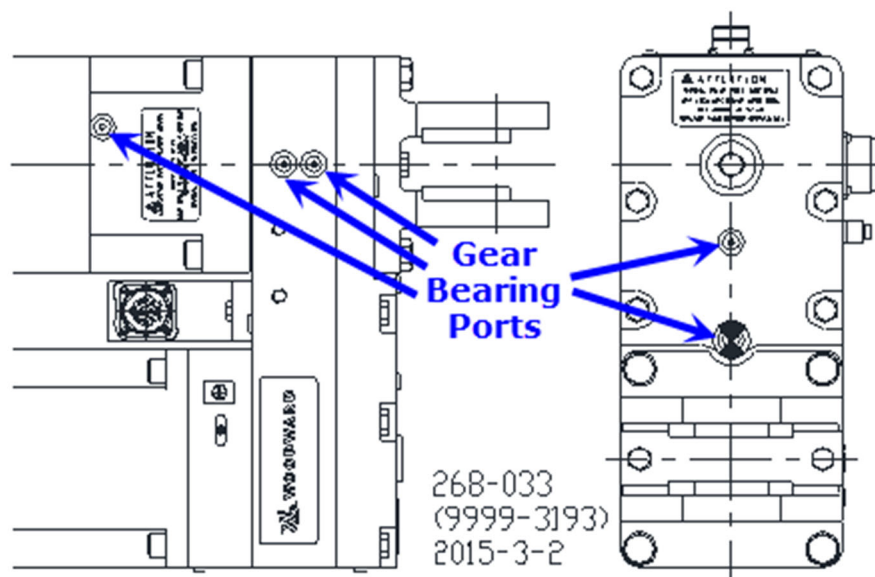

Figure 2-2. Gear/Bearing Access Ports
2. Remove the bearing port plug with a 1/8 inch hex wrench (Figure 2-2).
4. Attach the thread connector of the grease syringe to the threaded bearing grease port. The fitting should be fully seated (Figure 2-2).
6. Remove the grease syringe from the bearing port and install the port plug. Torque to 2.5–3.2 N·m / 22–28 lb.-in (Figure 2-2).